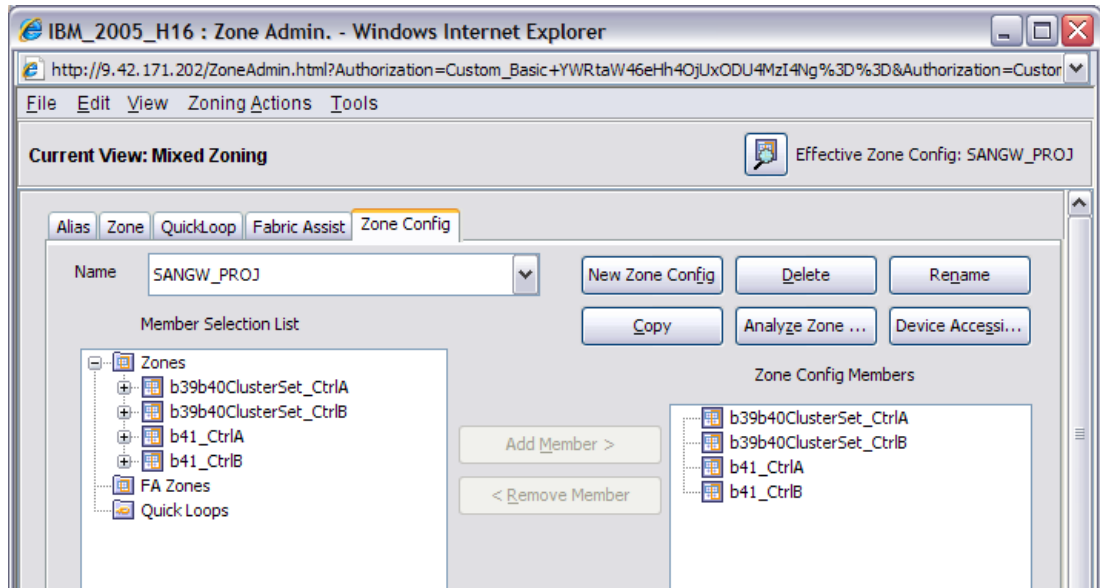

Figure 3-48 Complete the zoning configuration
3. Save the configuration that you have made in the SAN switch to activate the configuration as shown in Figure 3-48.